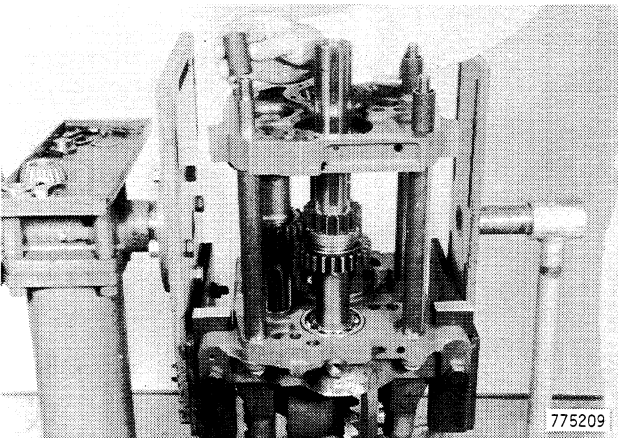

Figure 255
41. Remove spacers, Figure 255.